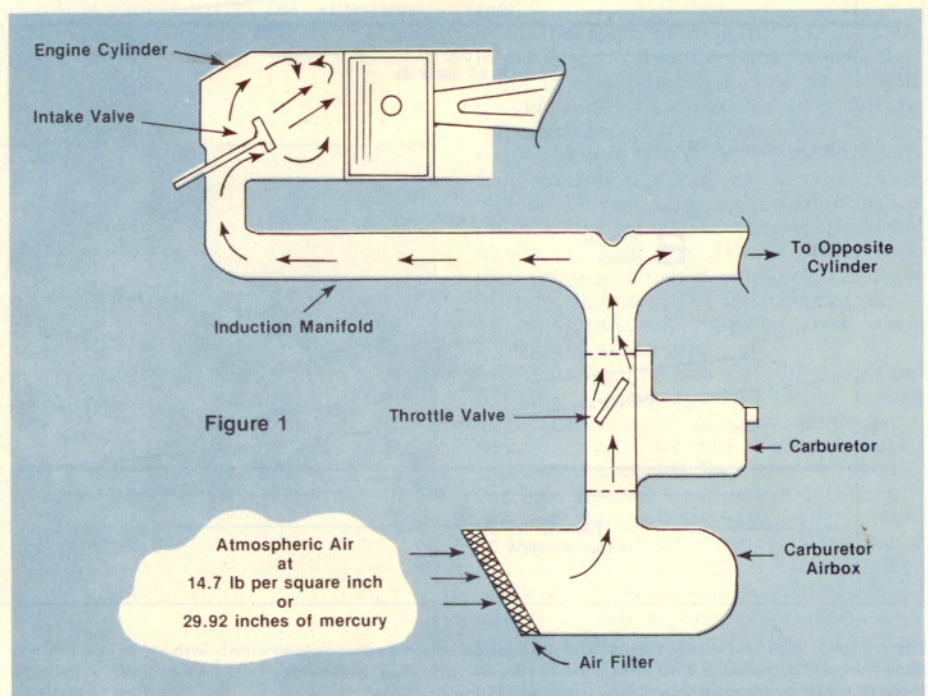

Figure 1
a linkage connected to a control in the cockpit. Figure 1 illustrates a typical arrangement of an induction manifold system. For simplification only one cylinder is shown; however, the arrangement would remain similar if more cylinders were present. The throttle valve always will be located within the carburetor throat if the engine employs a carburetor-type, fuel-metering system. The illustration depicts sea-level conditions and the engine is naturally aspirated (NA). The term naturally aspirated defines an engine that breathes air by means of atmospheric pressure. If the engine were supercharged, it would be defined as mechanically aspirated (MA) or assisted in its breathing by some mechanical means. This distinction is quite important to a basic understanding of manifold pressure, as we will see later on.